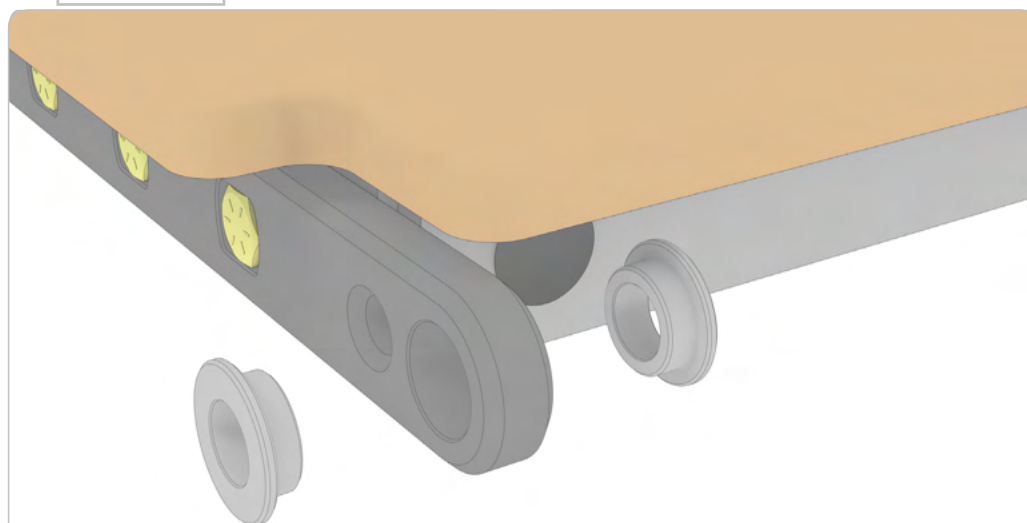

FIG 79
6.1 Attach Pivot Bushings to Bed Frame: Insert **Pivot Bushings** into each of the arms of the **Bed Frame** in the orientation shown in FIG 79.